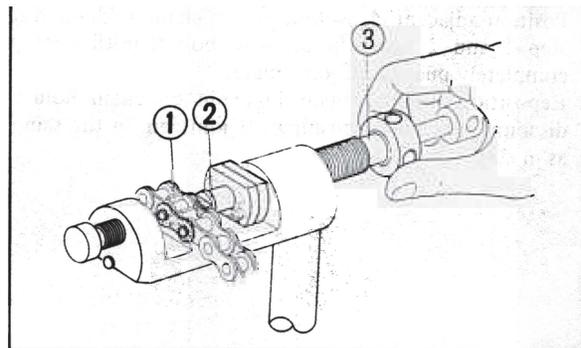

Fig. 5-63 (1) Chain holder
1. Position drive chain joint portion to be staked on chain holder in place and also place wedge holder between chain holder and pressure holder as shown in Fig. 5-63. So that tip of wedge is in line with center of joint pin.